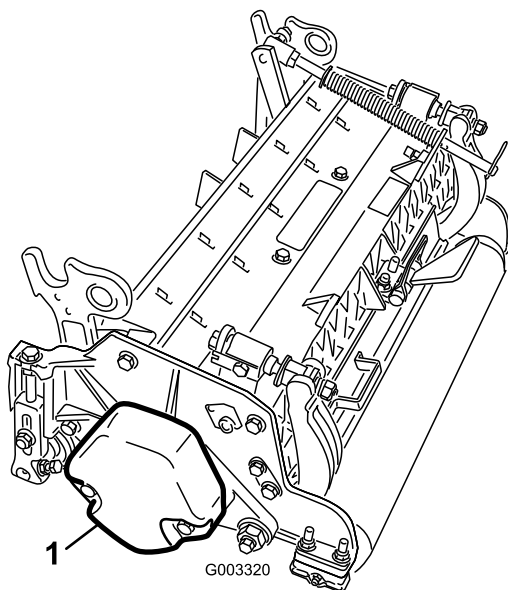

Figure 4
4. Make sure the counter weight (Figure 4) is installed to the proper end of the cutting unit as described in the cutting unit *Operator's Manual*.